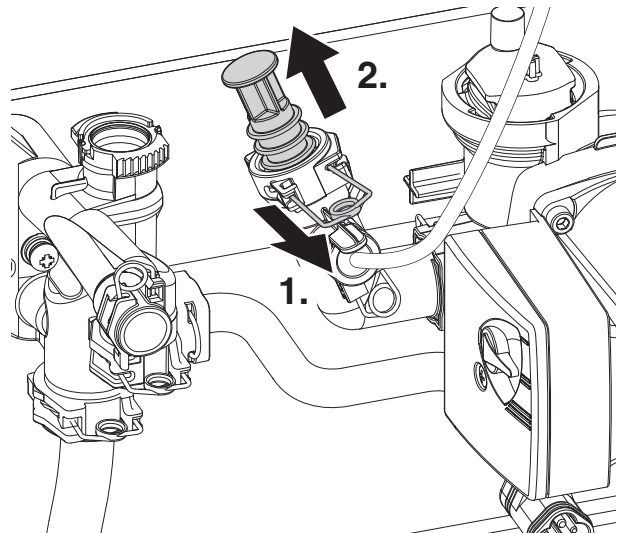

Fig. 36 Blanking plug
1. Refer to figure 36, release the retaining clip.